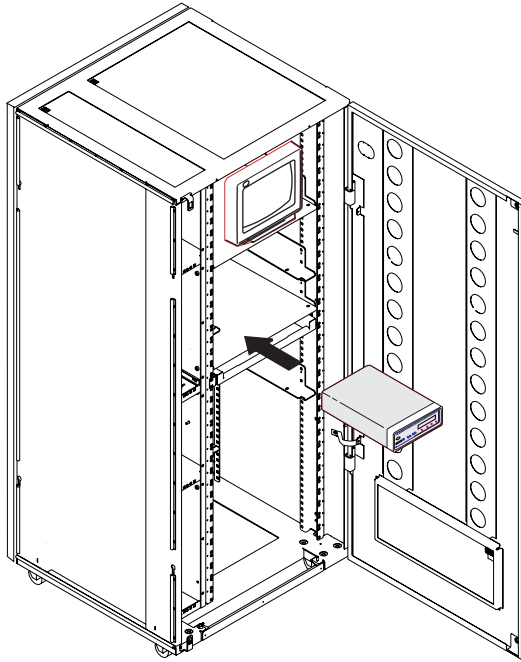

Figure 1-85. Installing the 7857 in the Controller Expansion
3. ____ Slide the 7857 in the controller expansion as shown in Figure 1-85 on page 1-74.